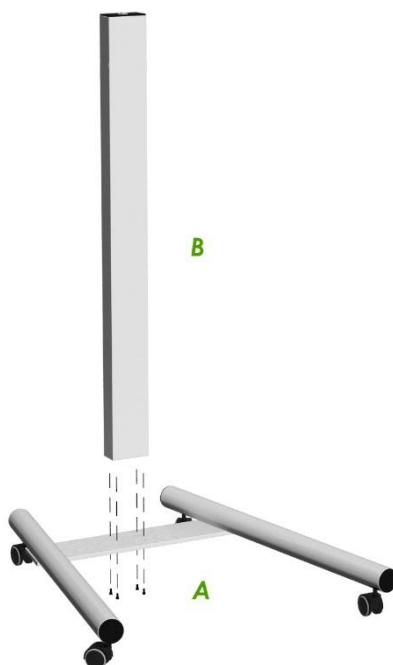

fig. 14
- ✓ Once assembled the cart **(A)** is possible to fix on it the vertical support **(B)** using 4 screws 6x20 as shown in fig. 14